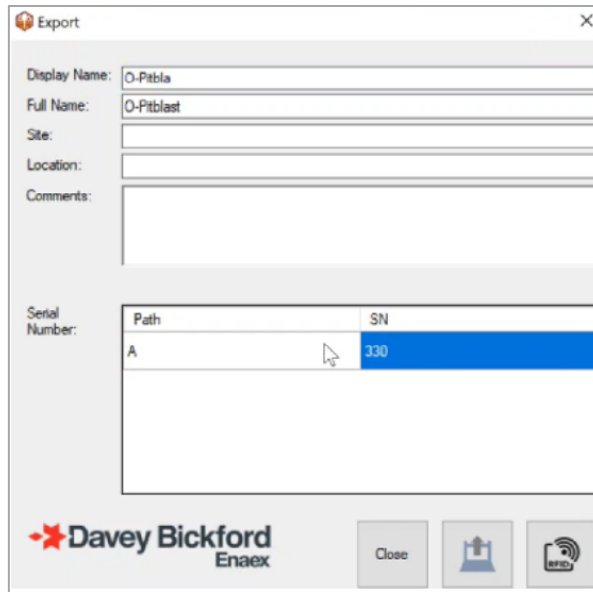

Fig. 327 - Confirmation Path-PU
4. In the end the user will have every path associated to a PU (Fig. 327);